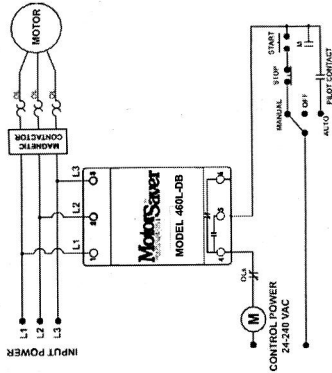
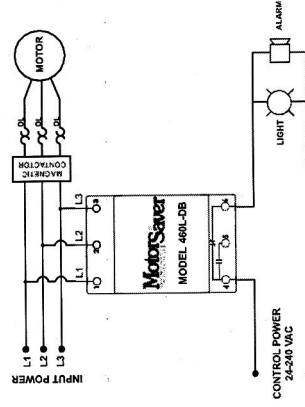

Figure No. 1: Motor Control Wiring Diagram
Figure No. 2: Alarm Wiring Diagram
2. Connect L1, L2 and L3 on the MotorSaver's terminal strip to the LINE SIDE of the motor starter. (See Figure No. 1).
3. Connect the output relay to the circuitry to be controlled. Connect the normally open contact in series with the magnetic coil of the motor starter as shown in Figure No. 1 for motor control. Connect normally closed contact in control circuit as shown in Figure No. 2 for alarm operation.